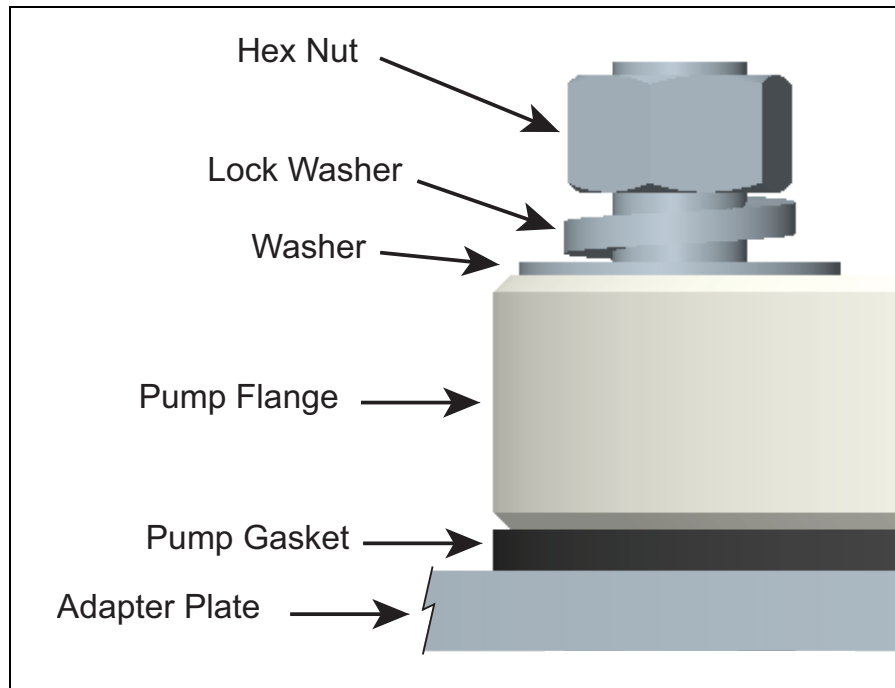

Figure B-3. Installing Pump Flange Fasteners
3. Secure the RJ DEF Pump to the Adapter Plate studs using the mounting Lock Washers, Flat Washers and Hex Nuts provided in the accessory parts box that were shipped with the RJ DEF Pump shipping container. The supplied anti-seize compound must be placed on the Hex Bolt Threads to ensure proper assembly and removal of the mounting hardware. Reference Figure B-3.